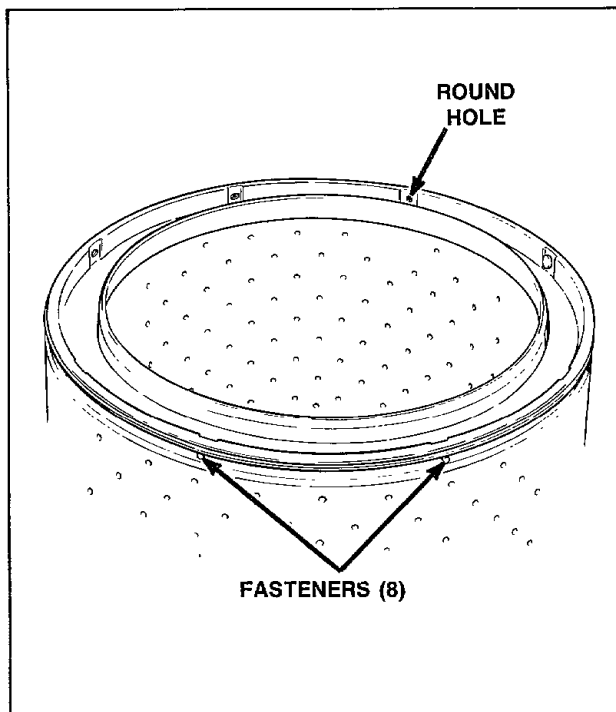

Figure 37
- g. Remove the eight fasteners holding lint filter to washtub, *Figure 37*.